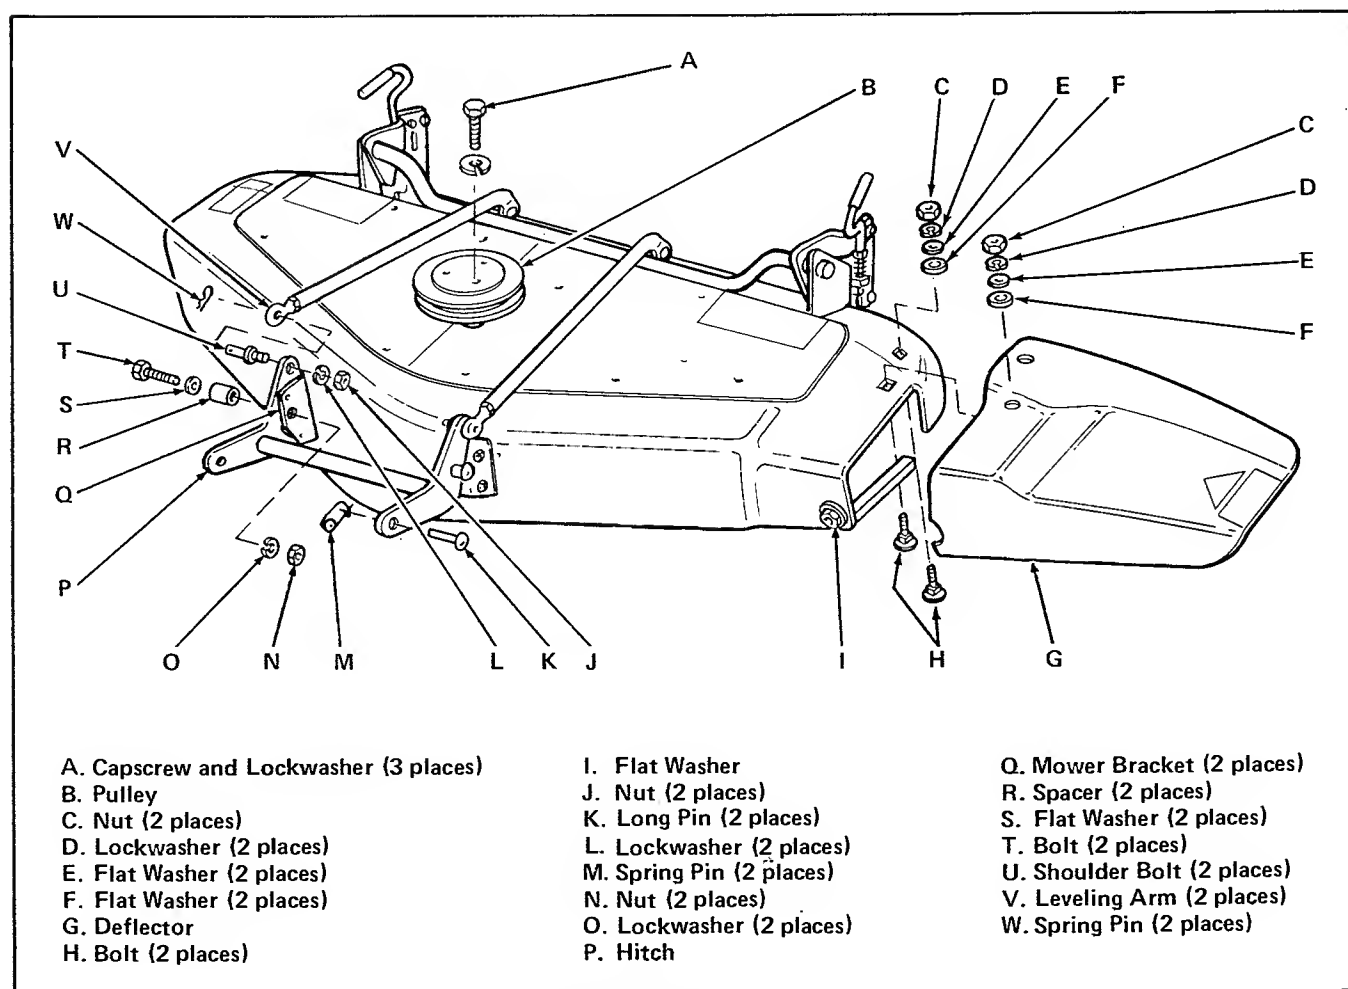

Figure 22. Assembly of 42" Mower with 5-1/8" Pulley
1. Align the hitch (item P, figure 22) with the lower holes of the mower mounting bracket (item Q).
- bolts (item U) through the holes in the hitch as shown in figure 22.